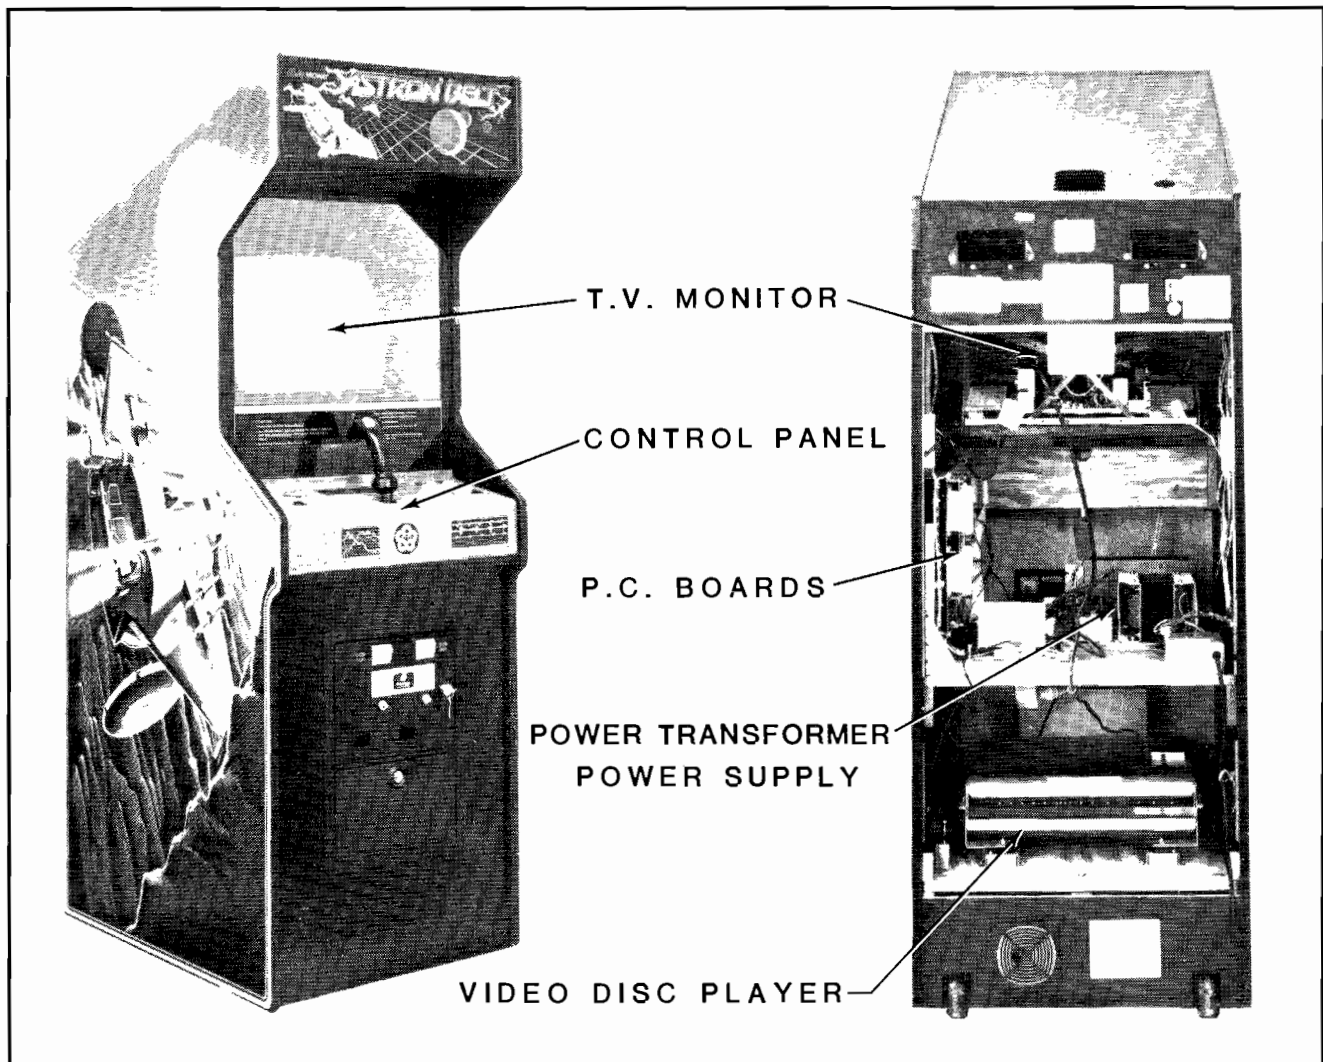

Figure 1-2 Location of Serial No., Interlock Switch, & Major Sub-Assemblies
5. Open the cabinet and inspect the inside of the game for any signs of damage. See Figure 1-2.
☐ Make sure all printed circuit boards (P.C.B.'s) are firmly seated in their connectors. See Figure 1-2. These connectors are
☐ Note the location of the games serial number. See Figure 1-2.
☐ Check all major subassemblies to be sure they are mounted securely. These are called out in Figure 1-2.
### 3. Interlock and power ON/OFF switches. See Figure 1-2.
The game ON/OFF switch is located as shown in Figure 1-2. Turn the game on and allow it to warm up a few minutes.